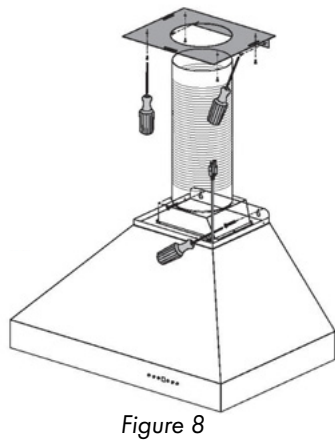

Figure 8
9. Mark the mounting points and install the two mounting screws provided leaving the heads out  $\frac{1}{4}$ " to mount the hood. *Figure 8*